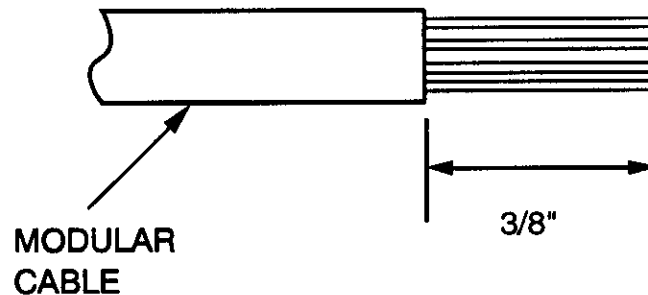

Figure 79, Modular Plug Installation Steps 1 and 2
2. Strip approximately 3/8" from the outer conductor of the cable (this is for flat four-conductor telephone line and may vary slightly for twist and outdoor cable). Do not strip the insulation from the four inner wires of this cable (see figure 79)